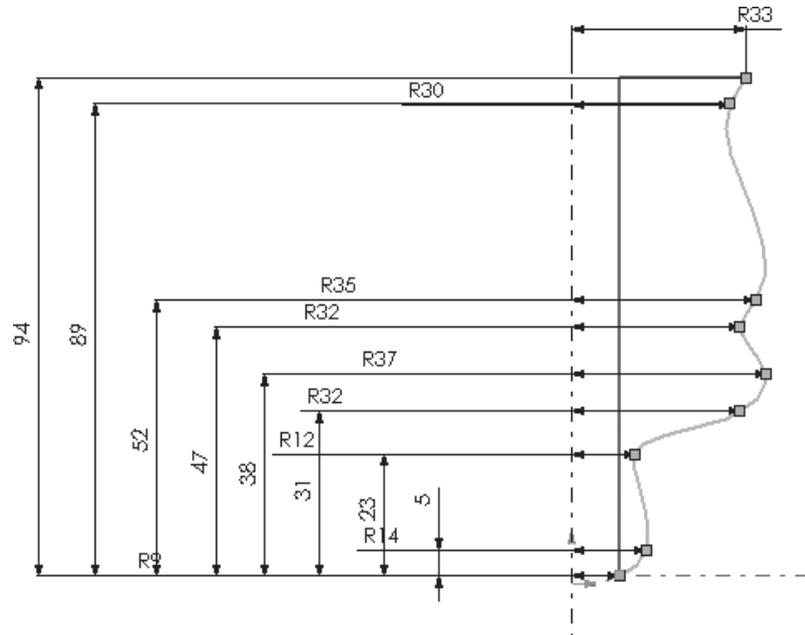

**Figure 4.20**
- 12** Create the CAD model of the helical spring shown in Figure 4.20. All dimensions are in centimeters.